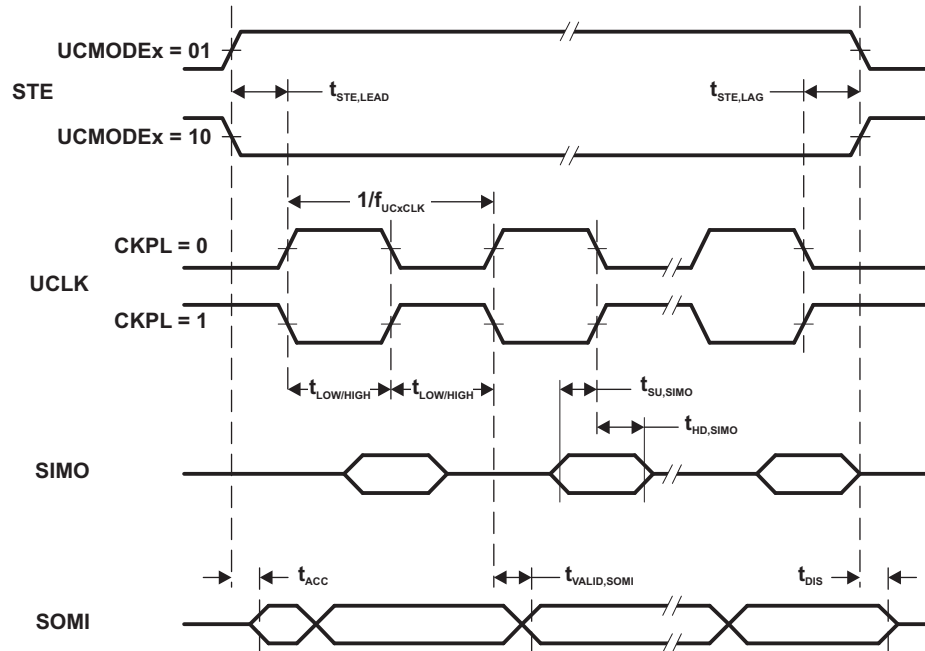
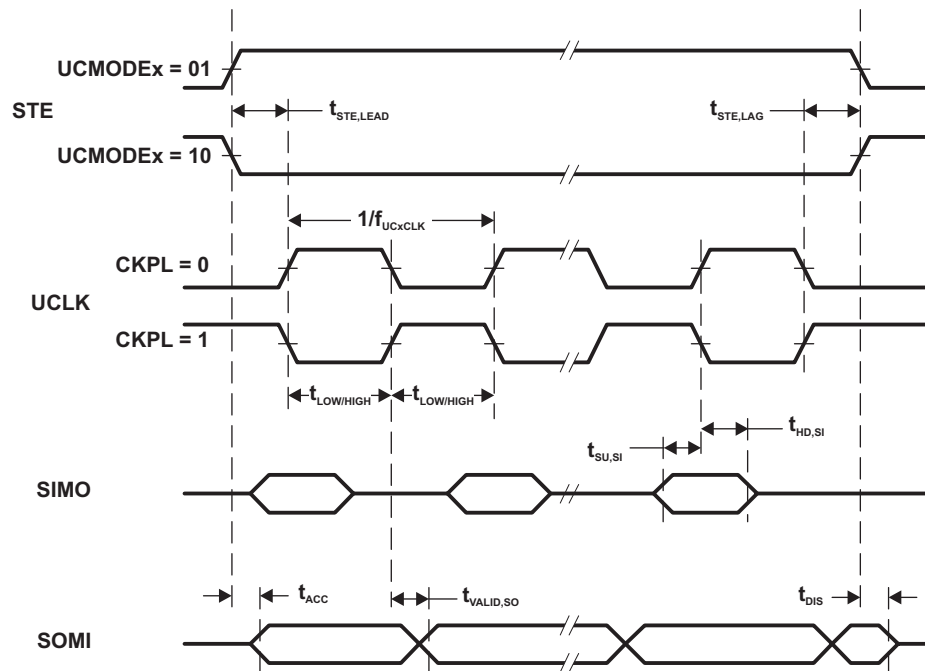

Figure 8. SPI Slave Mode, CKPH = 0
Figure 9. SPI Slave Mode, CKPH = 1
(2) Specifies the time to drive the next valid data to the SOMI output after the output changing UCLK clock edge. See the timing diagrams in Figure 8 and Figure 9.
(3) Specifies how long data on the SOMI output is valid after the output changing UCLK clock edge. See the timing diagrams in Figure 8 and Figure 9.